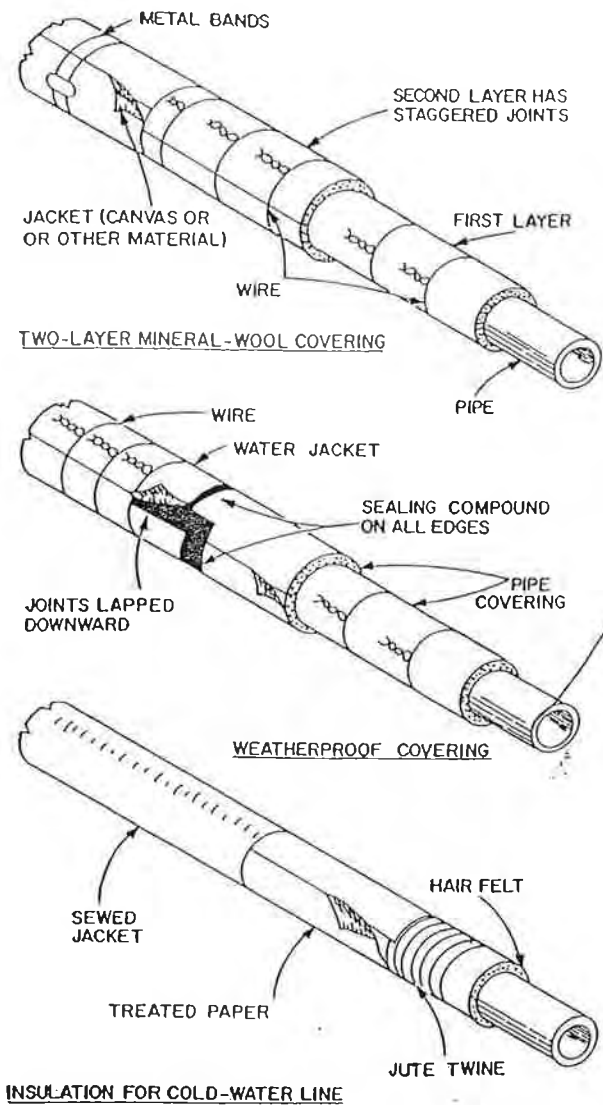

Fig. 1-5. Common pipe insulations.
1.49 Materials used for insulation vary, and they are selected according to the requirements of the application. Typical insulating materials include polystyrene foam, fiberglass, hair-felt, and mineral wool. As shown in Fig. 1-5, insulating layers are applied to pipe in several ways. An outer wrapping may be used to protect the insulating material against the effects of water, chemicals, and mold, or other damaging conditions.